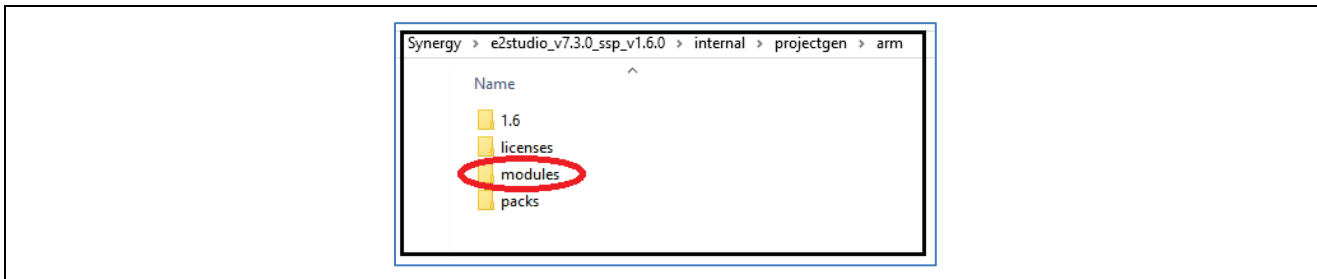

**Figure 13. Set the Connection Between Pins and Peripherals on Your Board**
9. Based on your board I/O schematics, create a new **g\_bsp\_pin\_cfg** structure by deselecting the unused peripherals/ports, and select the required components on the custom board in the Synergy Configuration, **Pins** panel. For example, the custom board S5D9\_CB has a high-speed USB host and a full-speed USB device as shown in Figure 13.